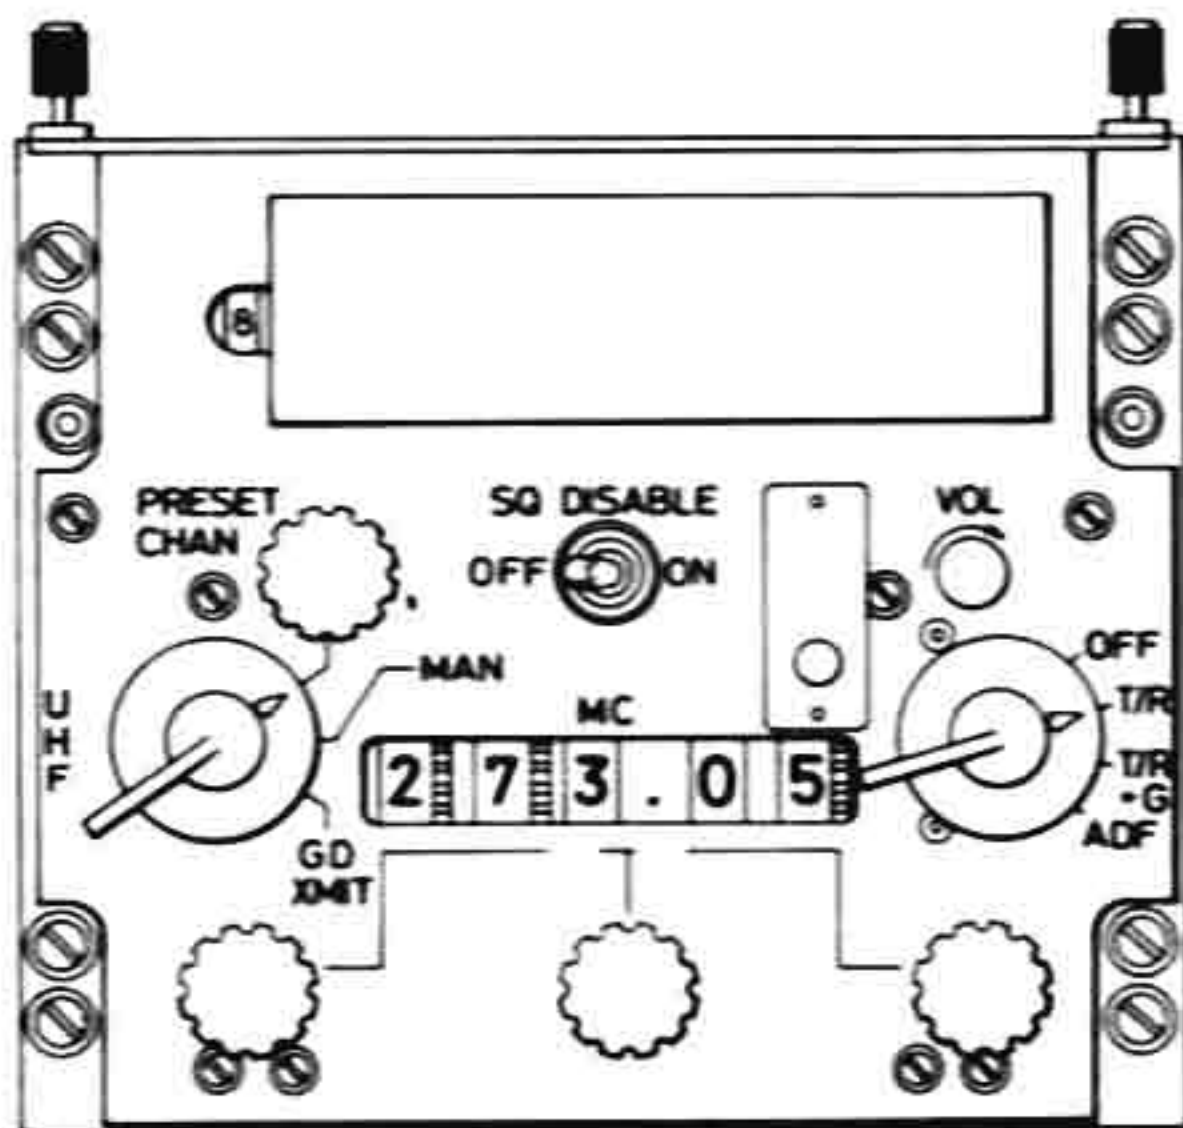

Fig. 1-38 UHF(AM) Radio, AN/ARC-51BX
UHF (AM) RADIO, AN/ARC-51BX (SEE FIG.1-38)
1153. UHF (AM) Radio AN/ARC-51BX. (Ref. Fig. 1-38). The AN/ARC-51BX is a completely transistorized airborne radio set providing amplitude modulated speech communication in the UHF band and may be installed in place of the Collins 618F-1A radio. The set can be used for two-way radio communication between aircraft, air-to-ground or air-to-ship. Transmission and reception are conducted on the same frequency using a common antenna. The UHF antenna is mounted on the underside of the fuselage to the rear of the anti-collision warning light. In addition, an auxiliary receiver is incorporated into the transceiver to monitor any pre-set guard frequency in the 238 - 248 MHz band, the normally used guard frequency being 243 MHz. The control unit provides for manual channel selection, guard-transmit selection or selection of any one of twenty pre-set channels. The transceiver is located on the starboard side of the aircraft, forward of the firewall under the engine cowls, in lieu of VHF (AM) transceiver 618F-1A and the control unit is fitted on the No. 3 instrument panel in lieu of the Collins 618F-1A VHF control unit.